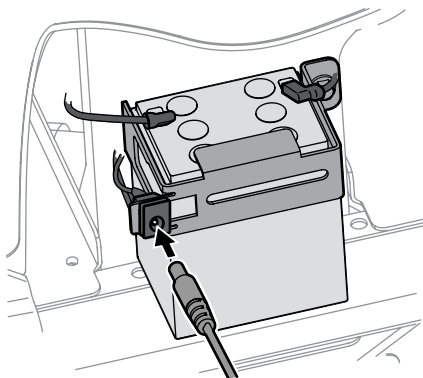

Figure 4-12
- A separately available charging unit is available for this tractor. Instructions for using this feature will accompany the battery charging accessory. The charging unit will plug in right next to the battery as shown in Figure 4-12. To order the battery charger, see the Parts/Warranty supplement sheet.